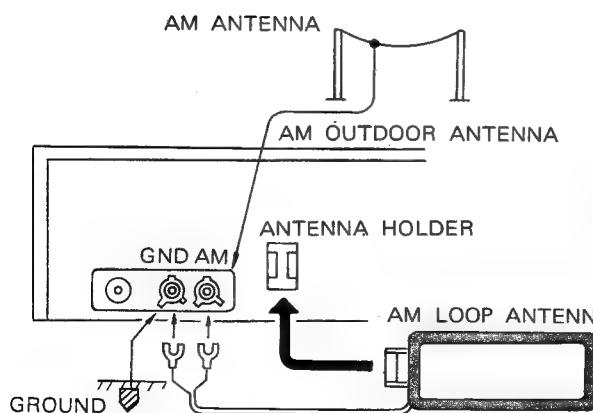

Fig. 7
- AM ANTENNA CONNECTION (Fig. 7)